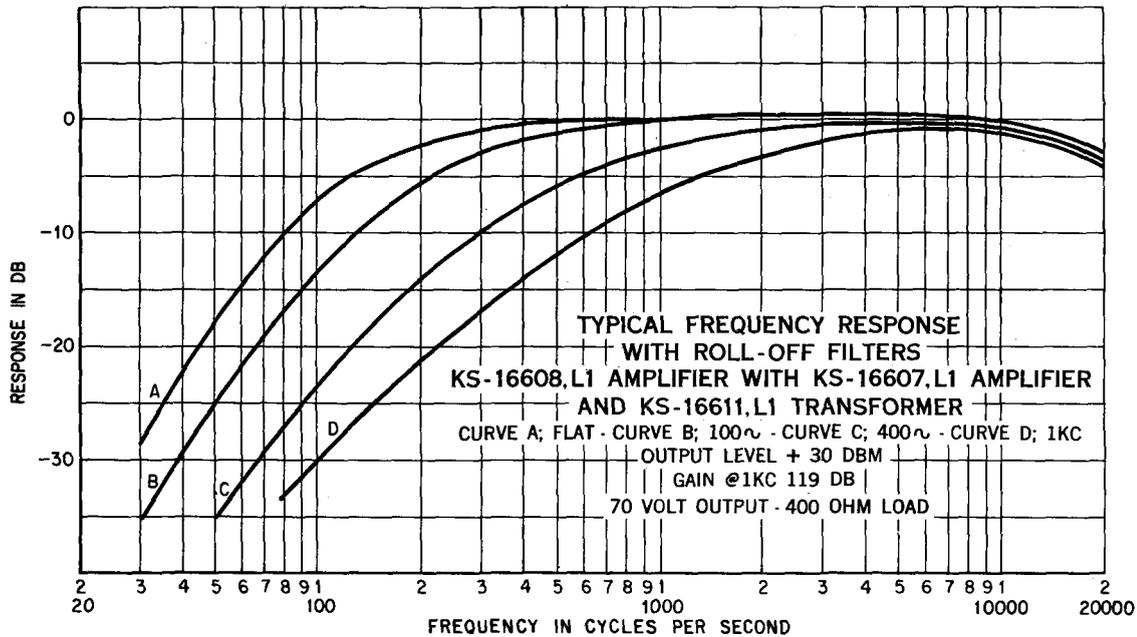

Fig. 8 – Roll-Off Frequency Response of Basic Amplifier Equipped with Preamp and Transformer
6.05 Fig. 8 shows the frequency response when the KS-16608, L1 Amplifier is equipped with a KS-16607, L1 Amplifier and a KS-16611, L1 Transformer. The curves show the over-all